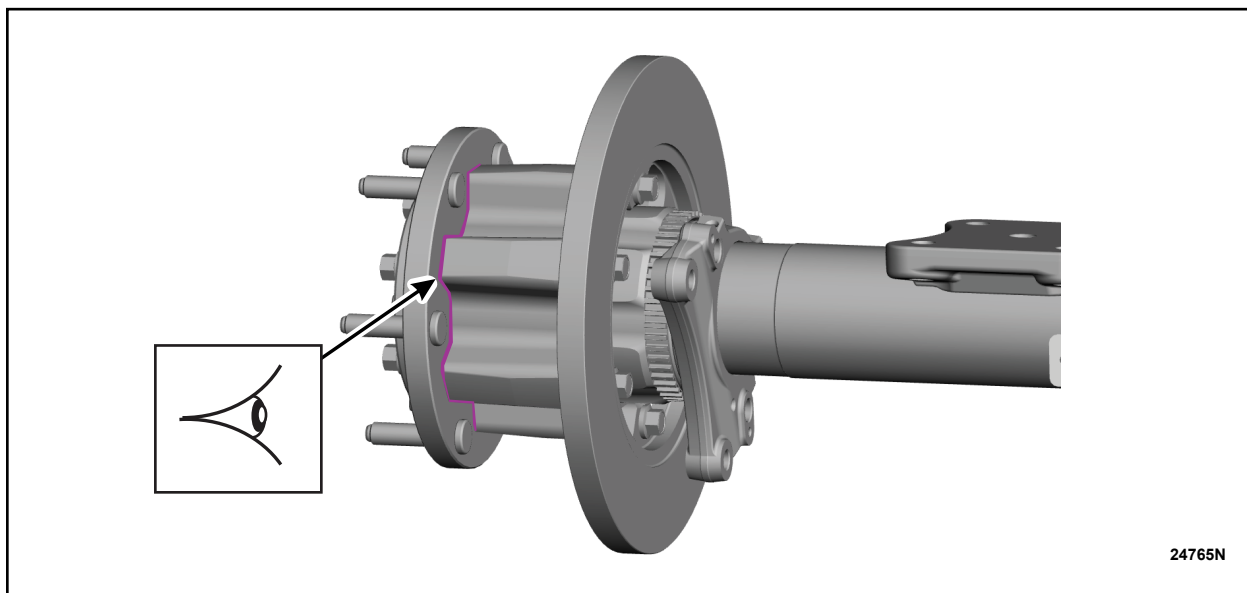

FIGURE 1
2. Visually inspect both the right hand (RH) and left hand (LH) axle hubs for signs of leaking rear axle fluid. See Figure 1.